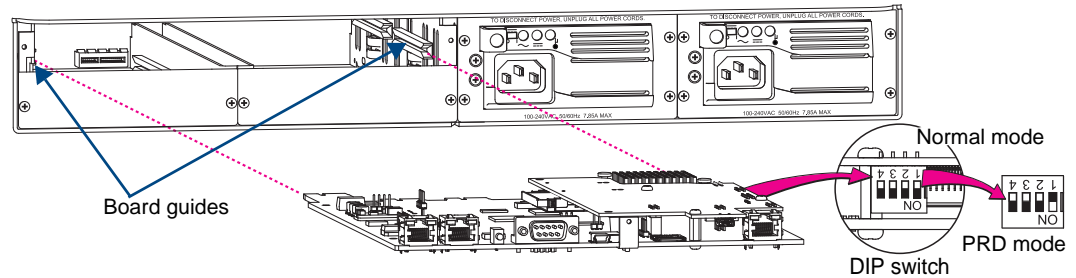

FIG. 113 Set Position #1 DIP switch to ON
- Slowly slide the CPU board back into the empty slot, being careful to align the edges in the board guides along the insides (FIG. 113).